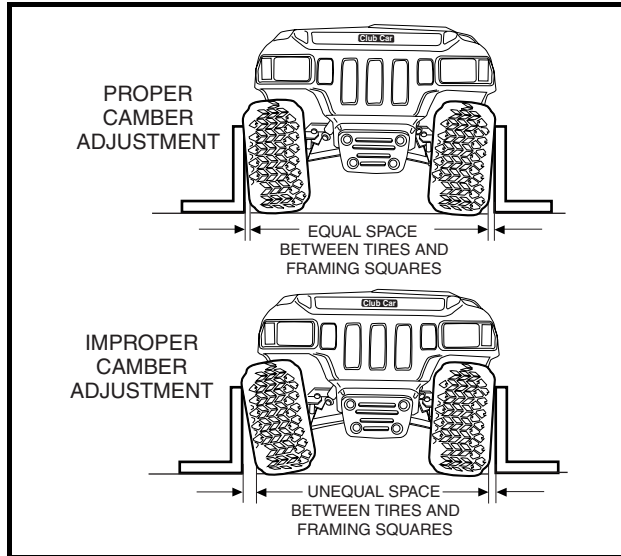

Figure 7-15 Check Camber
1. Check each front wheel with a framing square. From the floor (or ground), they should be perpendicular with a framing square (**Figure 7-15, Page 7-14**).
5. After adjusting camber, tighten the four spring retaining bolts (30) (**Figure 7-20, Page 7-18**) to 23 ft-lb (31 N·m). Then roll the vehicle forward one full tire revolution and recheck the camber. See also **Figure 7-15, Page 7-14**.